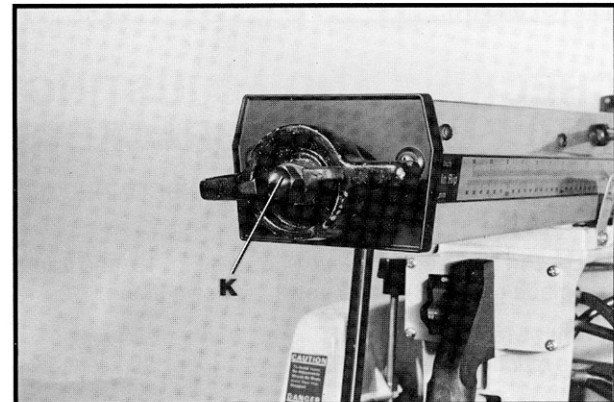

Fig. 14
6. Assemble acorn nut (K) Fig. 14, to the threaded end of index rod.